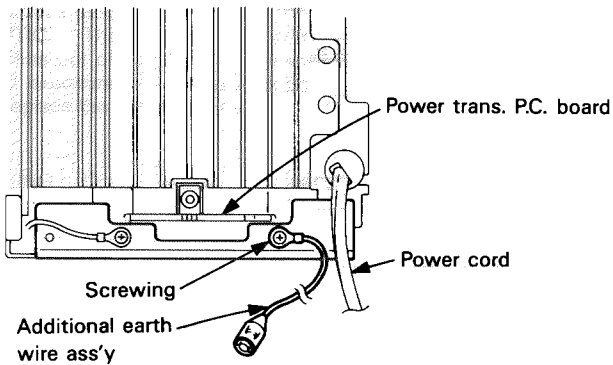
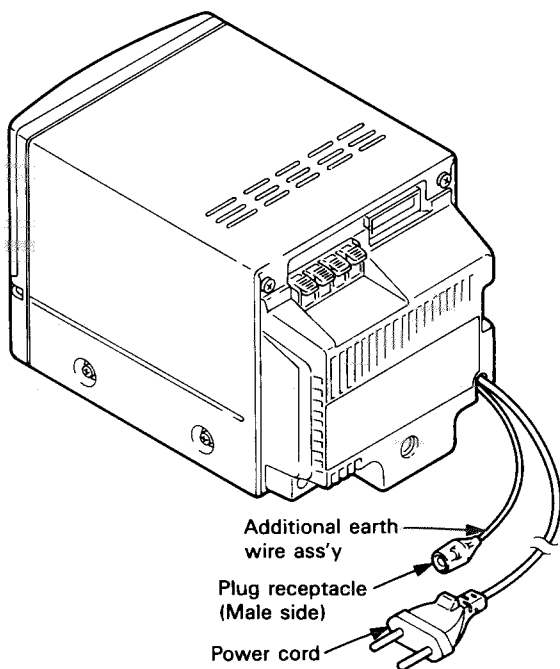

Fig. 1 Back surface of the deck amp. section
Fig. 2 Deck amp. section
- (1) Addition of earth wire ass'y for connecting mutually between the deck amp. section and CD tuner section
- ① The earth wire ass'y (Parts No. VMP0123-001) connected to the deck amp. section is screwed as indicated in Fig. 1 below.
- ② The earth wire ass'y connected to the deck amp. section is drawn out of the back cover slit together with the power cord as indicated in Fig. 2 (Fig. 1) below.